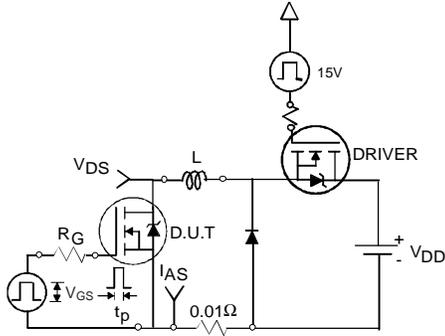

Fig 12a. Unclamped Inductive Test Circuit
- ③ $I_{SD} \leq 104A, di/dt \leq 240A/\mu s, V_{DD} \leq V_{(BR)DSS}, T_J \leq 175^\circ\text{C}$
- ④ Pulse width $\leq 400\mu s$; duty cycle $\leq 2\%$.
- ⑤ $C_{oss \text{ eff.}}$ is a fixed capacitance that gives the same charging time as C_{oss} while V_{DS} is rising from 0 to 80% V_{DSS} .
- ⑥ Limited by T_{Jmax} , see Fig.12a, 12b, 15, 16 for typical repetitive avalanche performance.
- ⑦ This value determined from sample failure population. 100% tested to this value in production.
3. Equation below based on circuit and waveforms shown in Figures 12a, 12b.